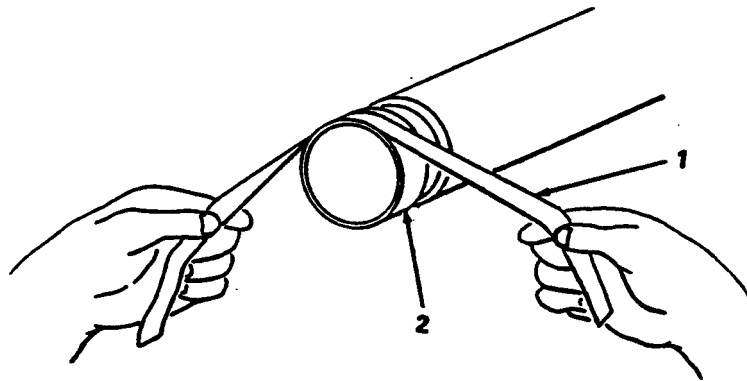

Figure 3-9. Adapter Sealing Faces, Repair.
- (l) Immediately insert adapter (5) into hose end (6). Push adapter into hose until hose end contacts shoulder of adapter as shown.
- (m) Position three clamp sections (7) around hose end (4) and adapter (5). Make sure clamp sections mate with groove in adapter as shown.
- (n) Install three bolts (9) and nuts (8) to secure clamp sections (7) to adapter (5).
- (o) Repeat steps (7) and (8) to install repair clamp (10) on hose end (6).
(3) *Repair of adapter sealing faces.* (figure 3-9)